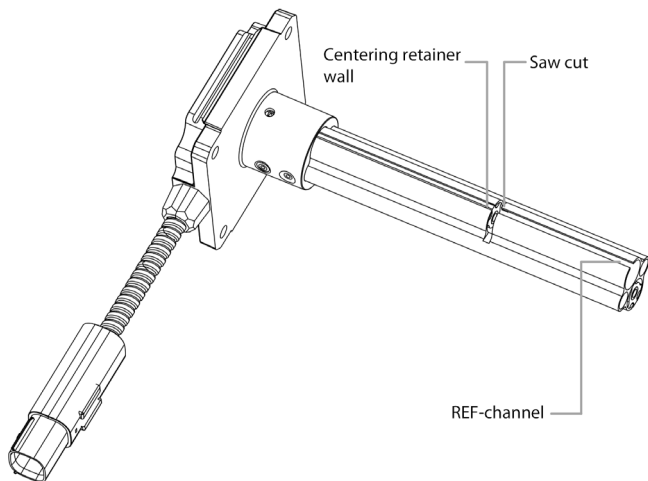

Figure 3. REF-channel cut
- REF channel should be shorter than the sensor measuring part by min 100 mm. If the difference is below 100 mm, cut REF channel according to Figure 3.